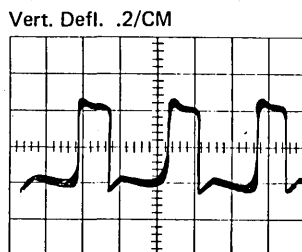

Figure 1-74. SA-2 Pin-B Output
3. The output of SA-2 (Figure 1-74) is pictured for reference. Set scope vertical on .2V per centimeter. Internal sync may be used.